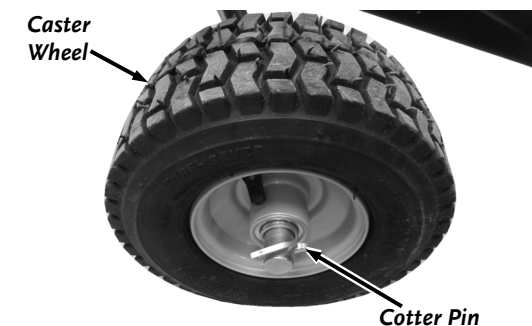

Figure 30
1. Remove the Cotter Pin with Pliers and remove the Caster Wheel Assembly (**Figure 30**).
The Trimmer Head won't spin or lacks power.	⇒ Check for proper alignment of the V-Belt. Check it against Figure 30 in the "Replacing the Belt" section on page 17. ⇒ The Belt may be worn or frayed; if so, replace it. ⇒ If none of the above helps, visit our web site at www.DRPower.com or call 1-800-DR-OWNER (376-9637) for assistance.